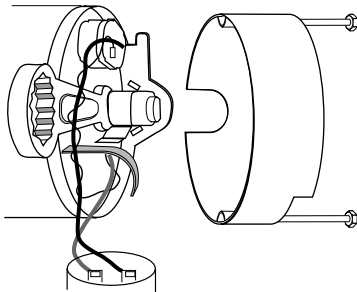

Figure 7
5. If impeller must be replaced, loosen two machine screws and remove motor canopy (See Figure 7).
7. Slide 7/16" open end wrench in behind spring loaded switch on motor end of shaft; hold motor shaft with wrench on shaft flats and unscrew impeller by turning counterclockwise when looking into eye of impeller (See Figure 7).